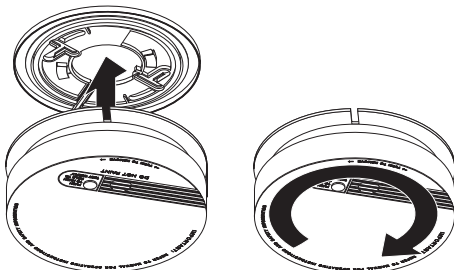

FIGURE 6C
5. Position the smoke alarm on the mounting plate so that the slot on the side of the alarm is to the left of the locking tab on the mounting plate. Turn alarm clockwise to lock into place. See Figure 6C.